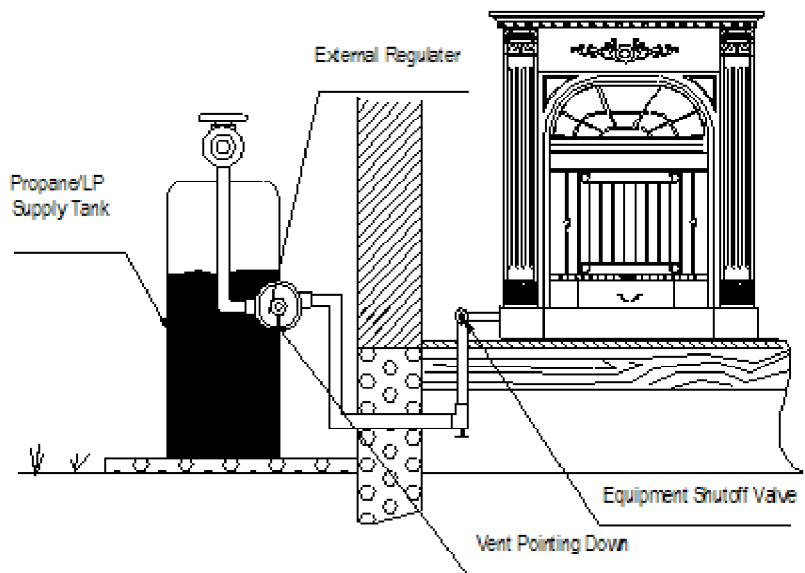

Figure 9 -Checking Gas Joints
4. Check all joints from equipment shutoff valve to control valve (see Figure 9). Apply mixture of liquid soap and water to gas joints. Bubbles forming show a leak.
3. Check all joints from gas meter to equipment shutoff valve (see Figure 9). Apply mixture of liquid soap and water to gas joints. Bubbles forming indicates a leak.